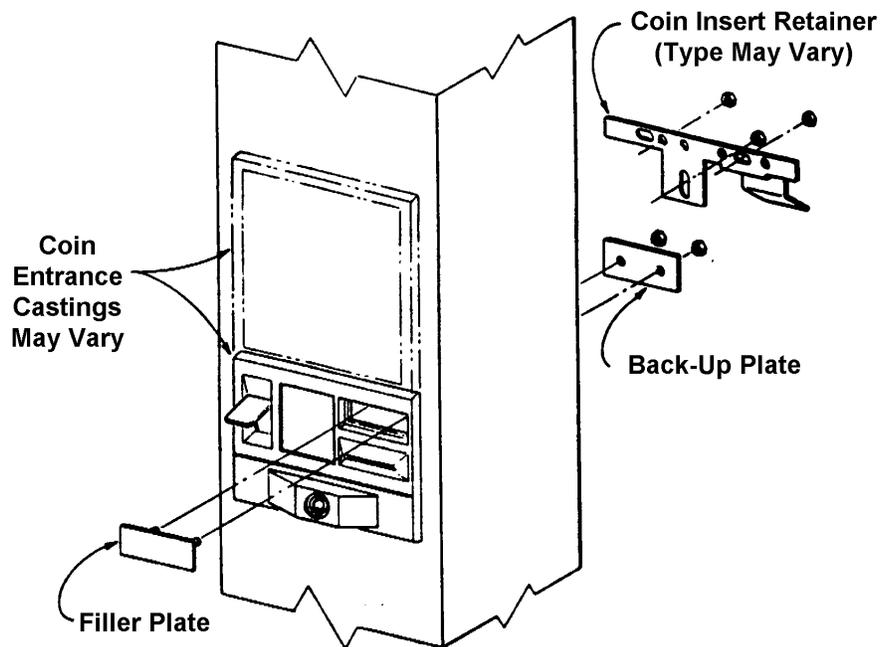

FIGURE 1
2. Remove the coin insert retainer. See figure 1.
7. Place the filler plate in position. See figure 1.
8. Place the back-up plate in position so the two (2) studs from the filler plate go through the holes in the back-up plate. See figure 1.
9. Secure with two (2) keps nuts #8 - 32.